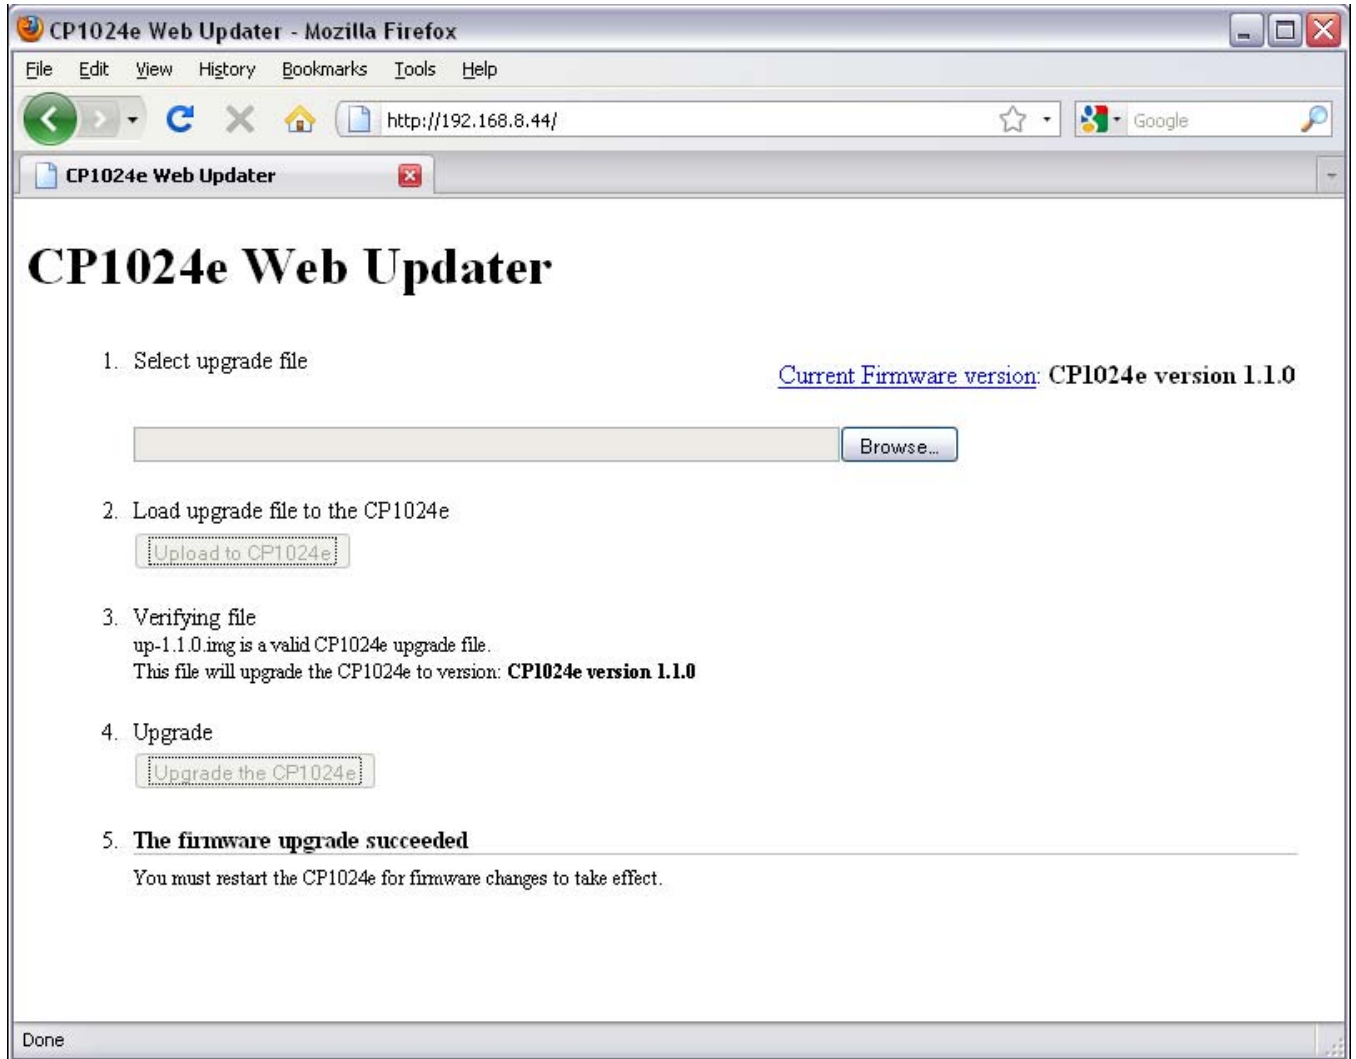

Figure 5-4: Successful Firmware Upgrade
5. Once the panel has been upgraded a message will be displayed to inform the user of a successful upgrade, as shown in Figure 5-4.